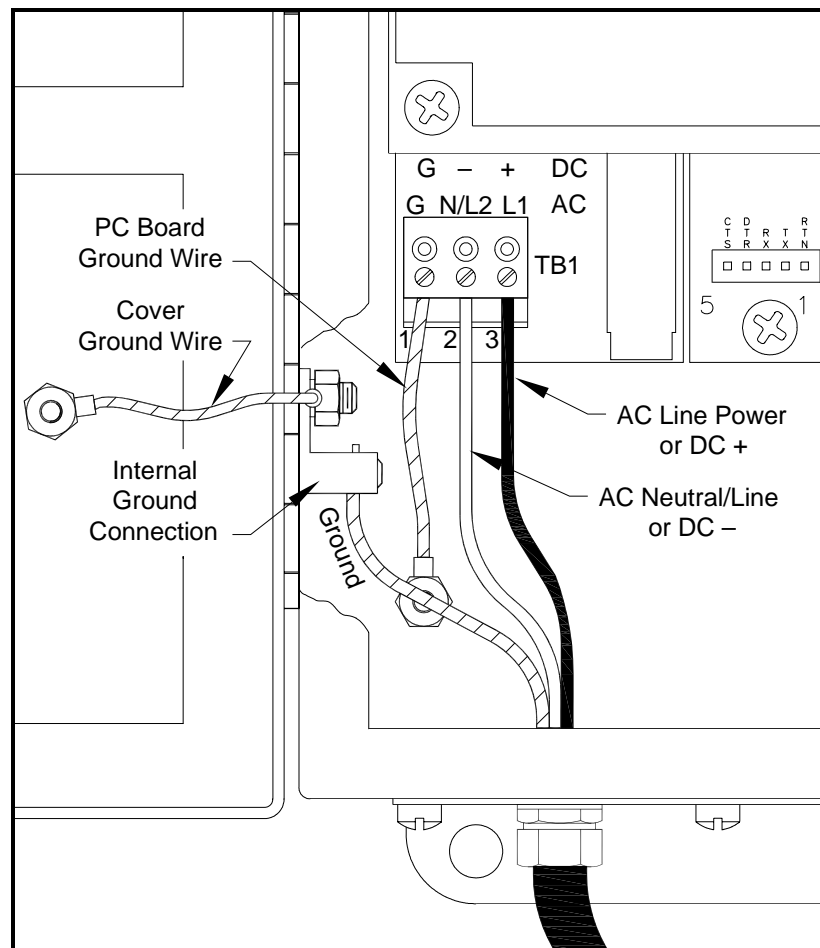

Figure 1-3: Wiring the Line Power
Refer to Figure 1-3 on page 1-7 or Figure 1-10 on page 1-18 to locate terminal block TB1 and connect the line power as follows:
3. Connect the ground lead to the internal ground connection located on the side panel of the enclosure (see Figure 1-3 below).
4. Connect the neutral or line lead (or the negative – DC power lead) to TB1-2 and the line power lead (or the positive + DC power lead) to TB1-3 as shown in Figure 1-3 below.